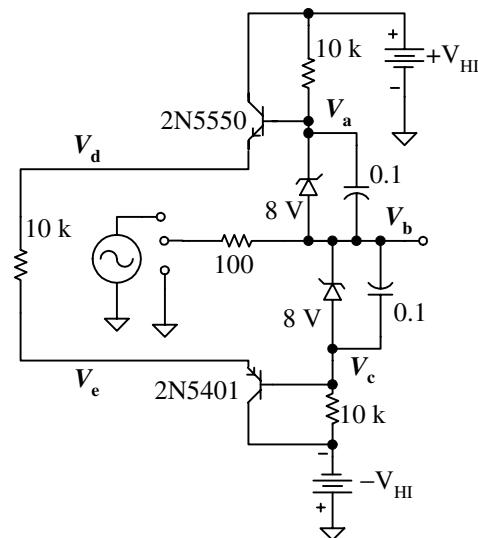

Figure 1-42 The completed suspended supply
3. Add the transistors and the $10\text{ k}\Omega$ emitter resistor shown in Figure 1-42. Connect the input (at the left of the $100\text{ }\Omega$ resistor) to ground. Set $\pm V_{HI} = \pm 18\text{ V}$.
4. Measure and record the five voltages indicated in Figure 1-42 with a digital multimeter (V_a , V_b , V_c , V_d , V_e). Assure that they are all correct before continuing.